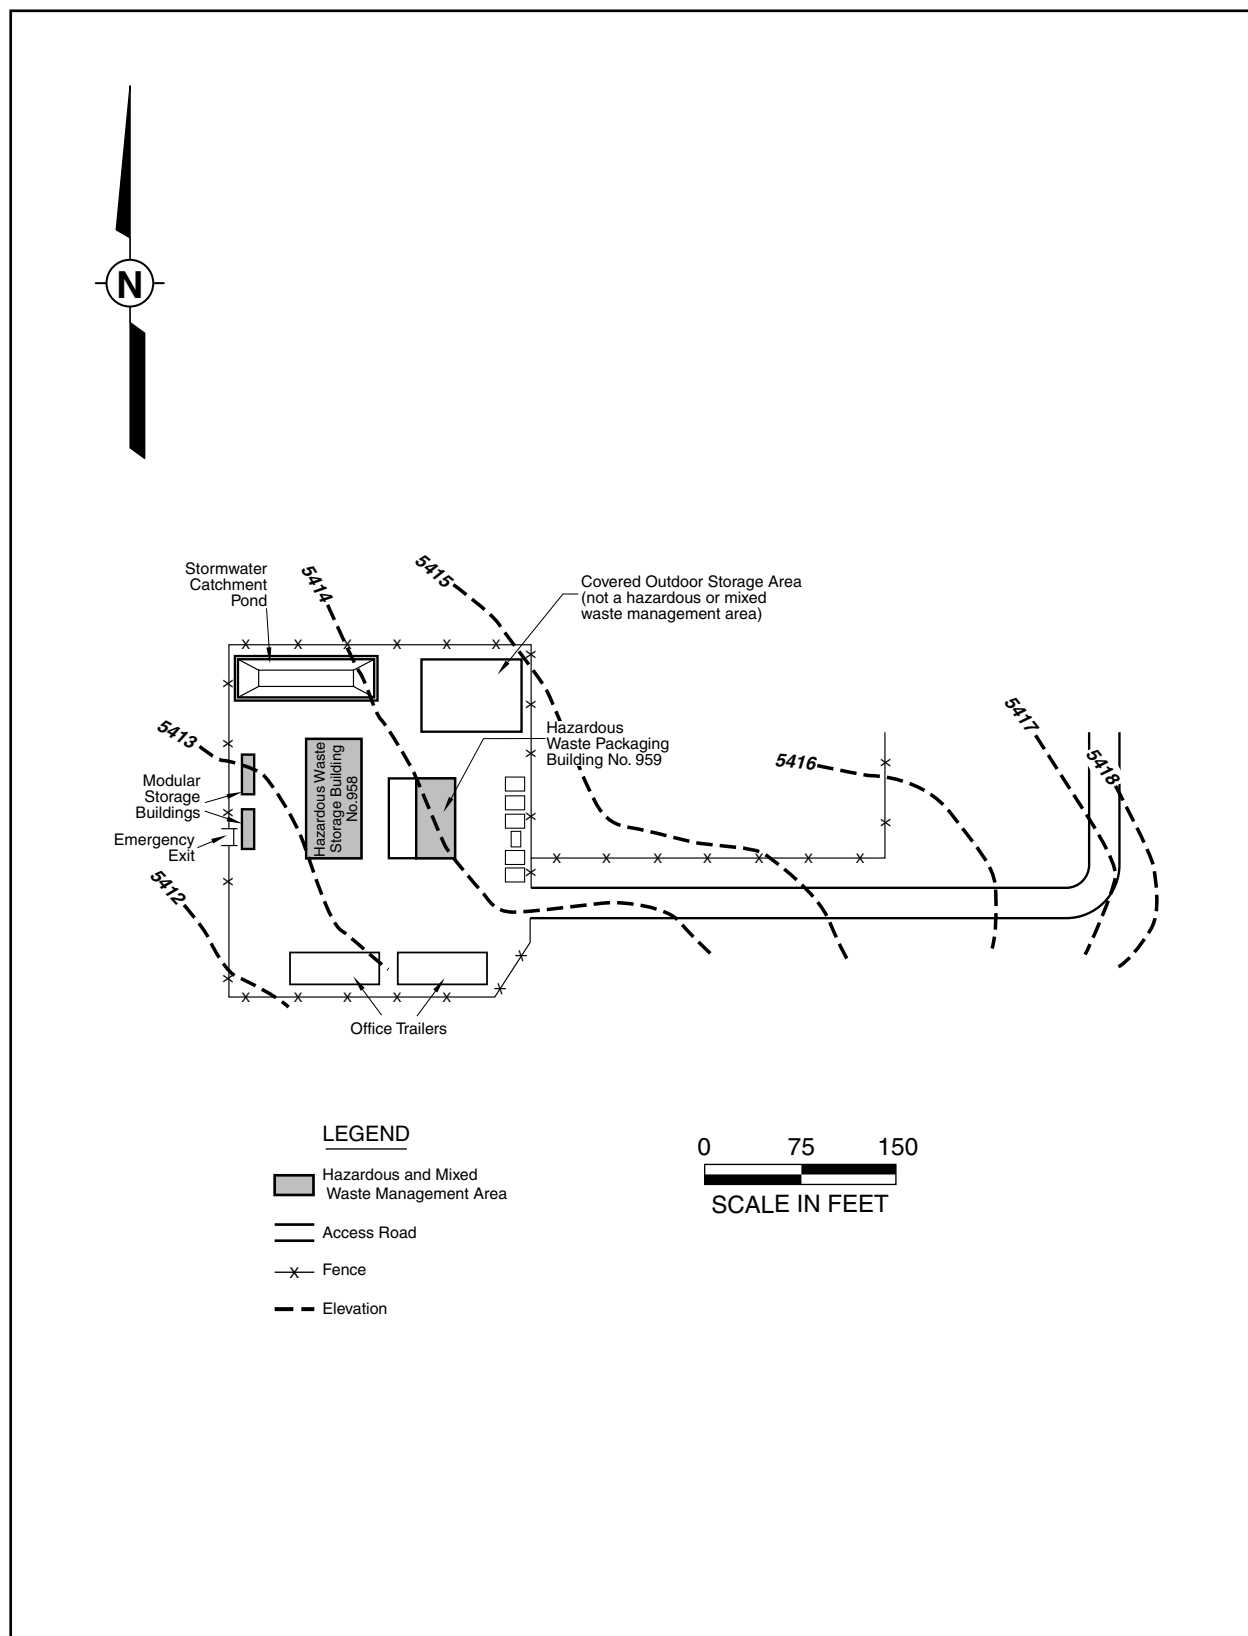

Figure 4
- Figure 4: Hazardous Waste Handling Unit, Hazardous and Mixed Unit Waste Management Areas